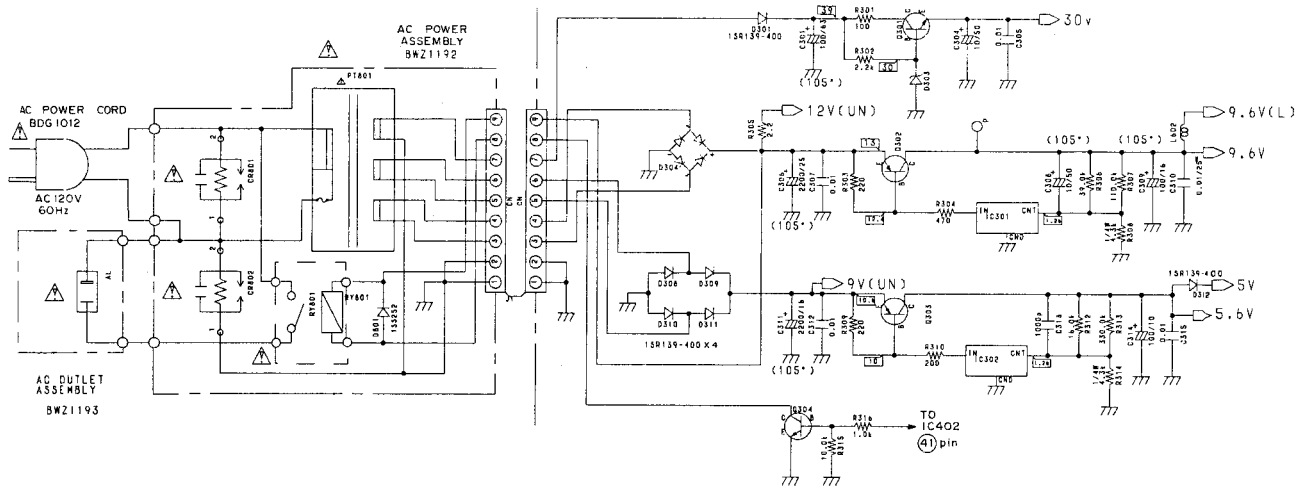

Fig. 27 Power Supply Section
6. Power Supply Section (Fig. 27)